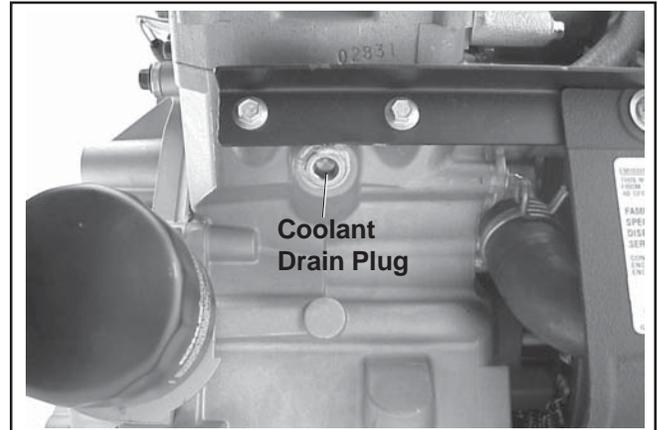

Figure 12. Coolant Drain Plug (Some Models).
3. If equipped, remove the coolant drain plugs located on each side of the engine block. See Figure 12. Drain the coolant into a suitable container. After the coolant has drained completely, apply pipe sealant with Teflon® (Loctite® No. 592 or equivalent), to the threads and reinstall the plugs. Torque the two plugs to **13.5 N-m (120 in. lb.)**.